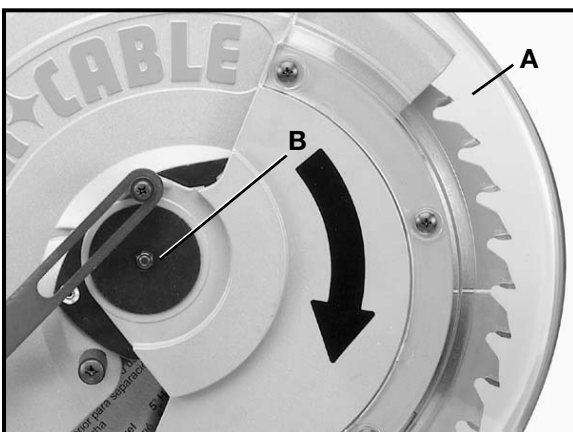

Fig. 34
After an extended period of time the movable blade guard (A) Fig. 34, might become sloppy and move erratically when the cuttinghead is lowered. This can be easily corrected by slightly tightening nut (B) until the lower blade guard (A) moves smoothly.